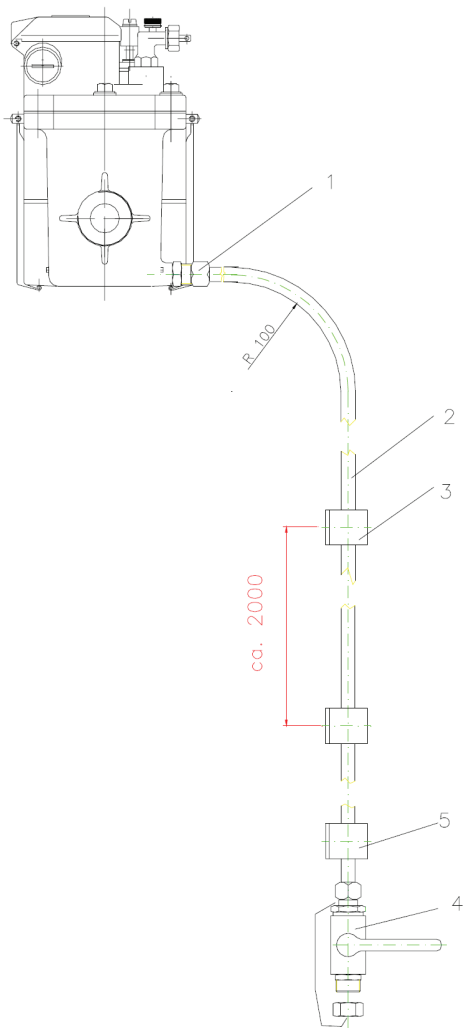
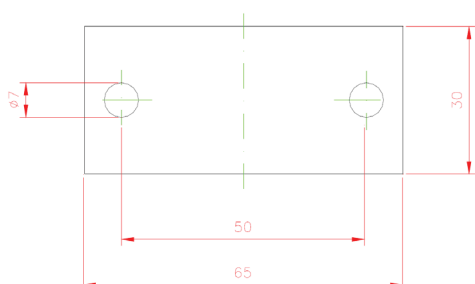

Figure 1 - Construction of oil drain unit ZG 6.1.
Figure 2 - Drilling pattern for a pipe clamp
The oil drain plug M12x1.5 is replaced by a shoulder nipple (**Figure 1/ Number 1**) that is screwed on the Buchholz relay. The tube (**Fig. 1/2**) to be fitted on the nipple is led to the oil drain (**Fig. 1/4**) that has to be provided by the user at an appropriate location on the transformer. It is advisable to fasten the tube every 2 m approx. using the pipe clamps (**Fig. 1/3**) supplied. The lower pipe clamp (**Fig. 1/5**) should be located at a minimum distance to the oil drain fitted.
- Screw in the shoulder nipple (**Fig. 2/1**) with a 12x2 O-ring as sealing element.
- Extend and bend the supplied copper tube (**Fig. 2/2**) in accordance with local requirements; for “horizontal” sections ensure a minimum slope of 15°.
- Connect the tube (**Fig 2/2**) with the shoulder nipple (**Fig 2/1**):
- Fasten the tube on the transformer by means of pipe clamps as shown in **Figure 1**. **Figure 2** shows the drilling pattern for a pipe clamp.
The lower pipe clamp ensures stability of the oil drain unit as shown in **Figure 1**.